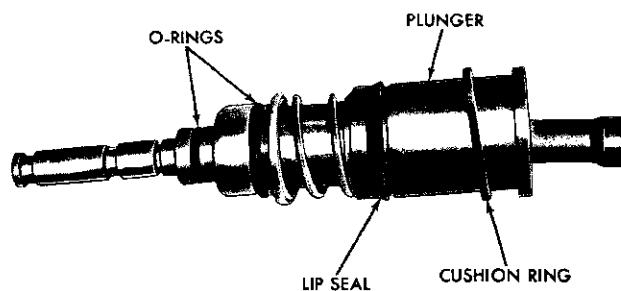

Fig. 33—Valve Plunger Assembly
(19) Remove the two "O" rings, seal and cushion ring from the valve plunger (Fig. 33).
(20) Remove the "O" ring from the outside diameter of the valve body.